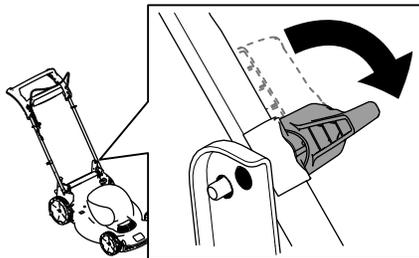

Figure 19
- Disengage the handle locks (Figure 19).